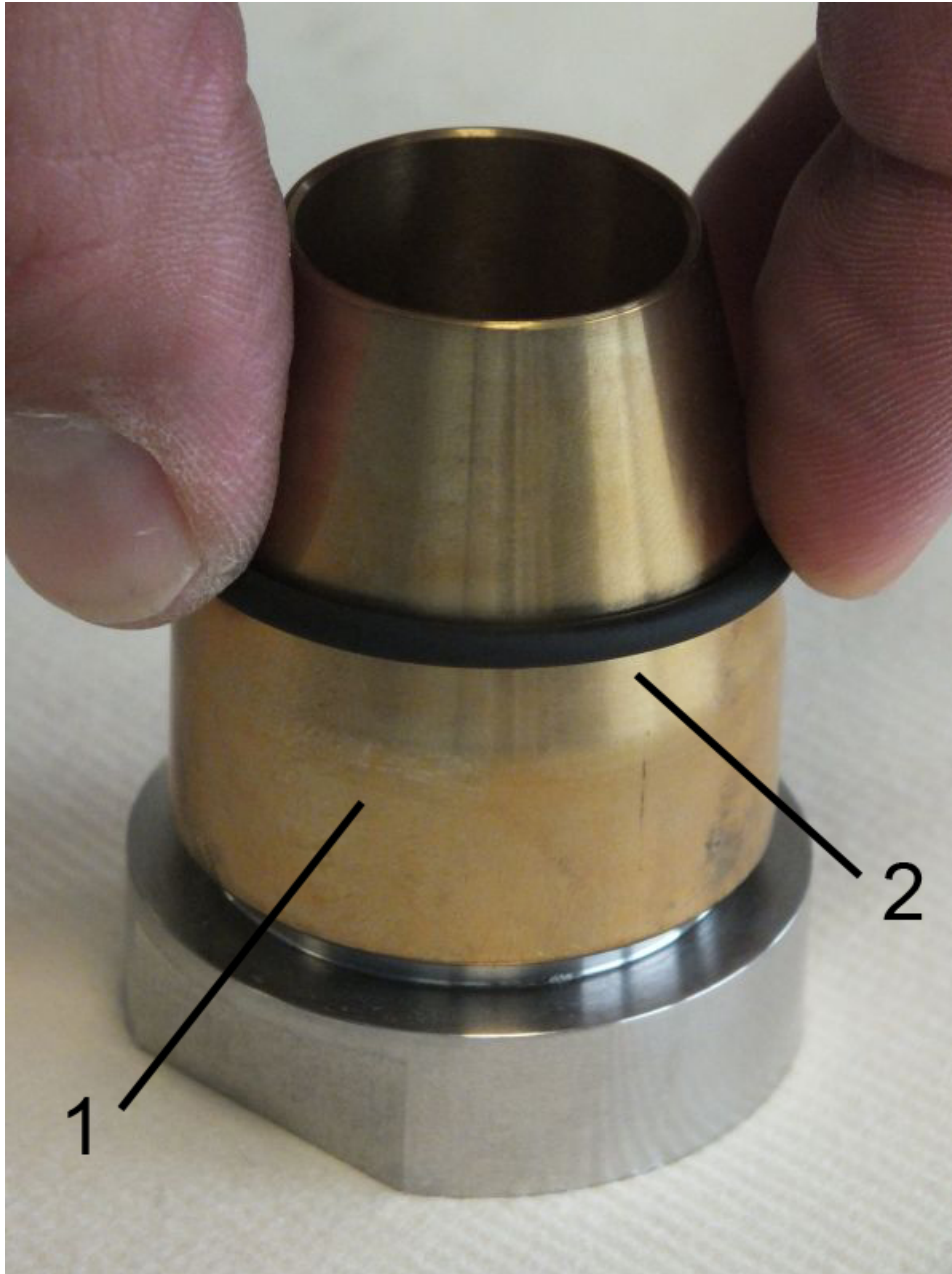

Fig. 60: O-ring (seal)
- 1.** ➔ Carefully install the O-rings (*Fig. 60/2*) with the aid of the O-ring installation tool (*Fig. 60/1*) onto both process connections (inlet and outlet), so that they are properly seated in the O-ring grooves of the process connection (*Fig. 61/1*). When doing so, be careful not to overstretch the O-rings.